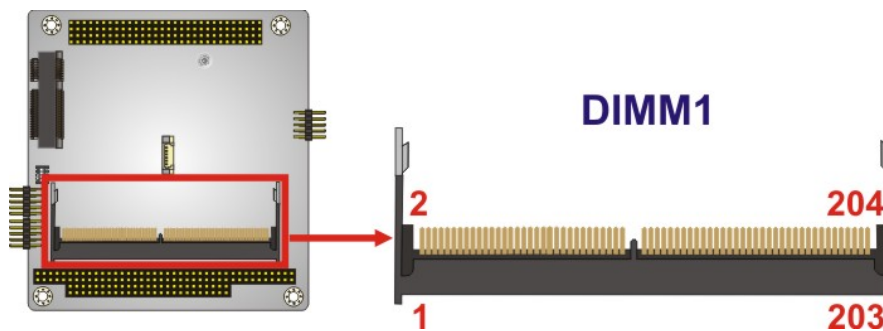

Figure 3-5: DDR3L SO-DIMM Socket Locations
- CN Location:** See Figure 3-5